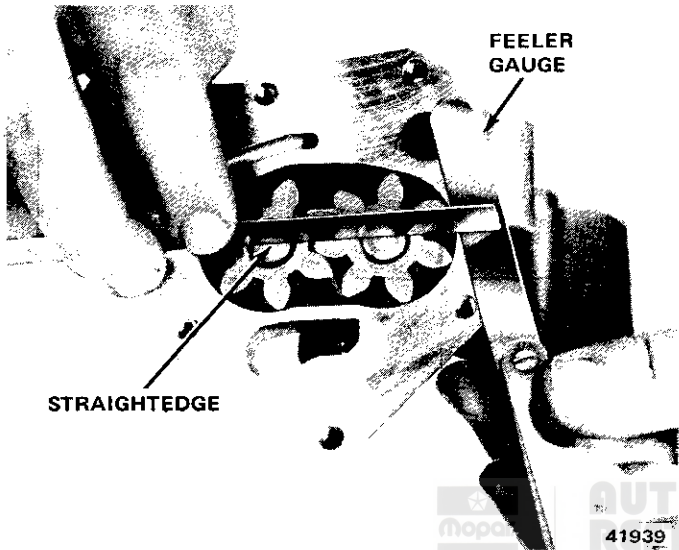

Fig. 1B-86 Oil Pump Gear End Clearance Measurement—Feeler Gauge Method
(1) Insert feeler gauge between gear tooth and pump body inner wall directly opposite point of gear mesh. Select feeler gauge which fits snugly but freely (fig. 1B-87).
(2) Rotate gears to check each tooth in this manner. Correct clearance is 0.0005 to 0.0025 inch (0.0005 inch preferred) or 0.013 mm to 0.064 mm (0.013 mm preferred).
(3) If gear-to-body clearance is more than specified, measure gear diameter with micrometer. If gear diameter is correct, check gear end clearance and correct. If gear clearance is acceptable and relief valve is functioning properly, replace timing case cover. If gear diameter is incorrect, replace gears and idler shaft.